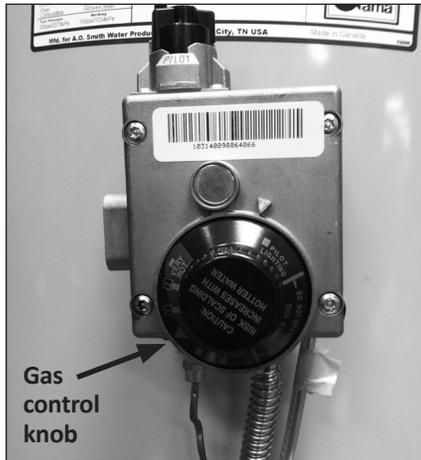

Figure 17 - Turn gas control/temperature knob OFF.
- 2 On the old water heater, turn the control knob on the gas control valve/thermostat to the OFF position (see Figure 17).